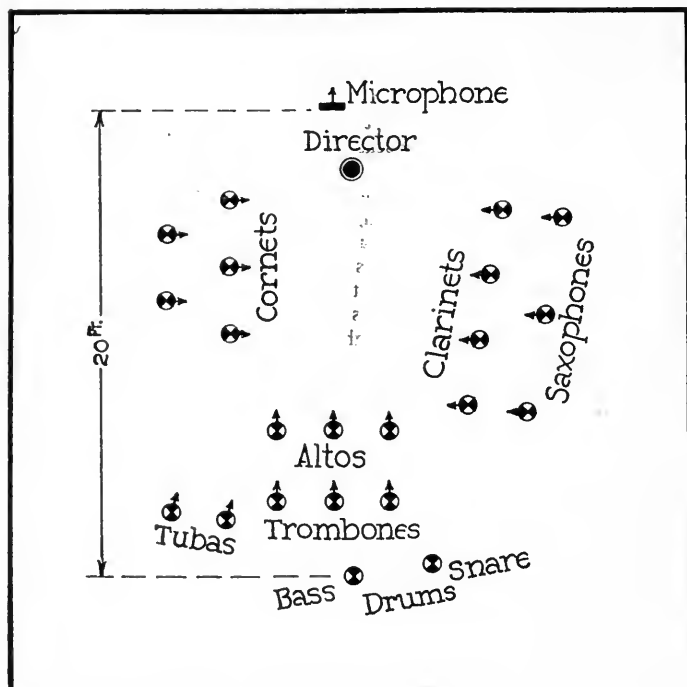

FIG. 1
**C**ONTINUING with our technical series for broadcasters, we show in Fig. 1 a very successful studio set-up for brass band, due to Mr. F. D. Leslie. This was a Naval band playing with great energy to a carbon microphone in a 25 by 19 studio, so that it had a decided tendency to blast. The microphone was turned back to the orchestra, with its sensitive side toward a fairly dead surface, and a typewriter cover was slung over it. The typewriter cover was a rather barbarous expedient, but if it took out the higher frequencies, as theoretically it might be expected to do, the difference was not noticeable on the air, and there was certainly no blasting. This set-up should be compared with the arrangement for brass band shown in Fig. 3-B last month. The principal difference, aside from the reversing of the microphone, is in the position of the cornets, which in the present case are ranged on one side of the room on a line perpendicular to the plane of the microphone.